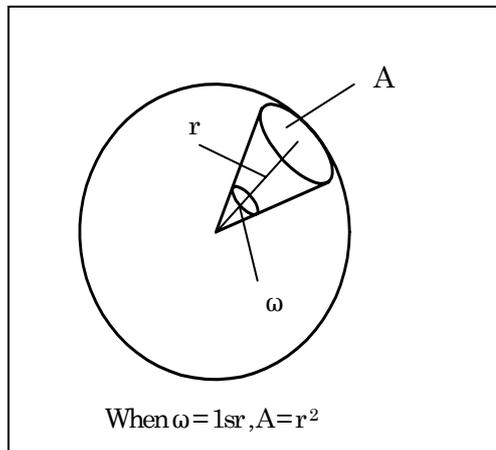

Figure 5: Solid Angle
i) Solid angle is defined as the area on a sphere of radius r divided by r2. (See figure 5)